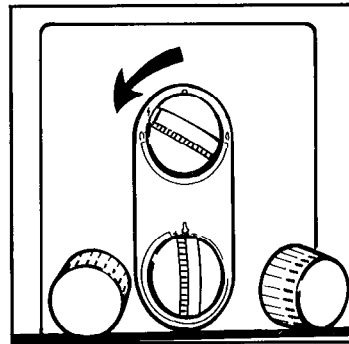

Fig. 1
- With all taps closed, light the pilot by turning the gas control knob through  to the position marked  (fig. 1), a click should be heard and the pilot should now be alight. In the pilot, which can be seen through the window, does not light, leave the knob in this position for a few moments, then return the knob to the off position  and repeat.